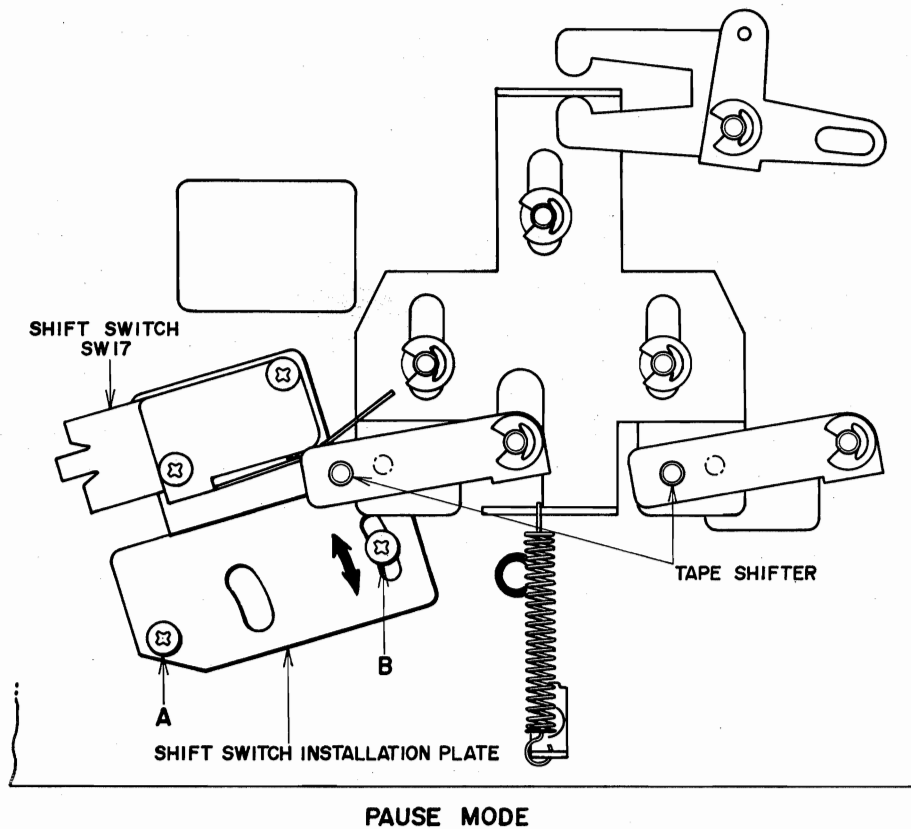

Fig. 16
8. SHIFT SWITCH POSITION ADJUSTMENT (Refer to Fig. 16)
As shown in Fig. 16, adjust by moving shift switch installation plate as shown by the arrow mark in figure so that when the machine is set to pause mode, the shift switch is not turned off.